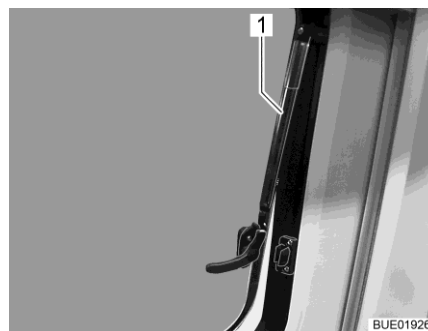

Fig. 17 Hinged window with automatic hinges, open
- Open hinged window half up to the required position. Allow the hinged window to engage automatically with the automatic hinge (Fig. 17,1).